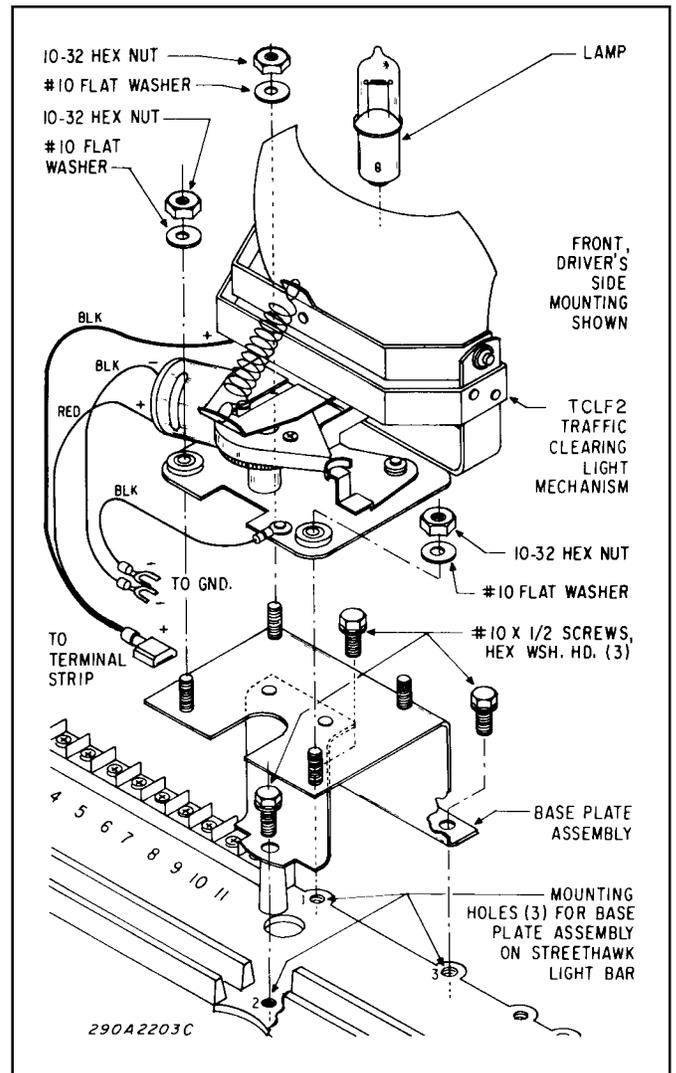

Figure 2.
5. Position the base plate assembly (supplied) on the Light Assembly base as shown in figures 2 and 3. Secure the base plate assembly with three #10 x 1/2 hex head screws (supplied).
6. Secure the traffic clearing light assembly to the base plate assembly with three (each) 10-32 hex nuts and #10 flat washers (supplied) as shown in figure 2.